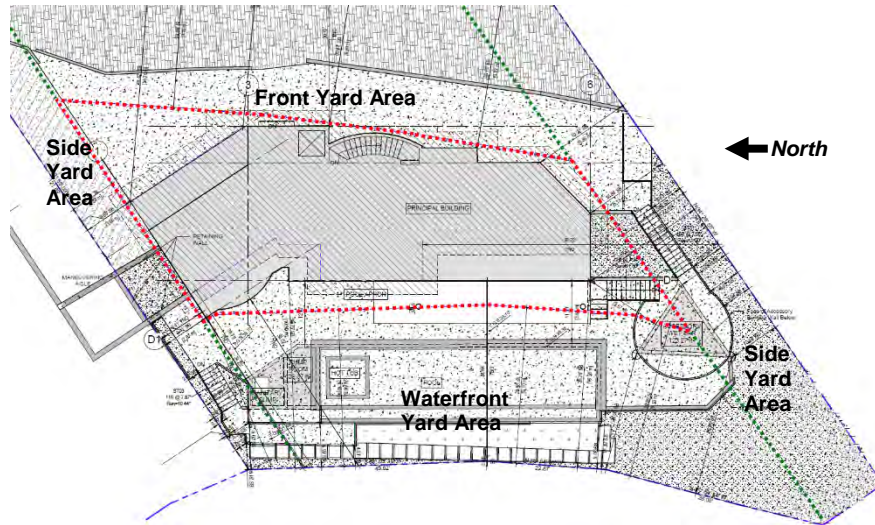

Figure 8 – Building Envelope
5. Setback Variances: The zoning compliant building envelope for the single-family dwelling, above ground pool and associated accessory buildings is seen in Figure 8. All structures are intended to be located within the red dotted polygon and no structures are to be located north or south of the green dotted (side yard setback line) lines. Accordingly, the existing pool, pool deck and two pool related ‘accessory buildings’ are not compliant with the waterfront and side yard setbacks.